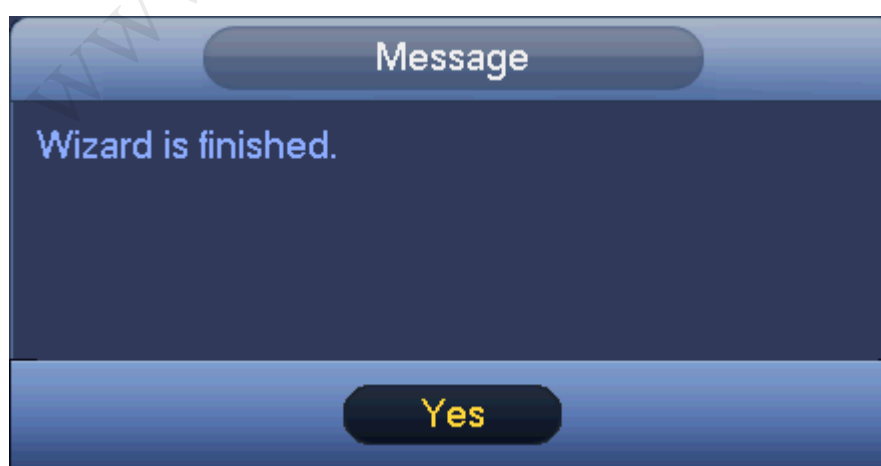

Figure 4-36
Step 7 Click Finish button, system pops up a dialogue box. Click the OK button, the startup wizard is complete. See Figure 4-36.